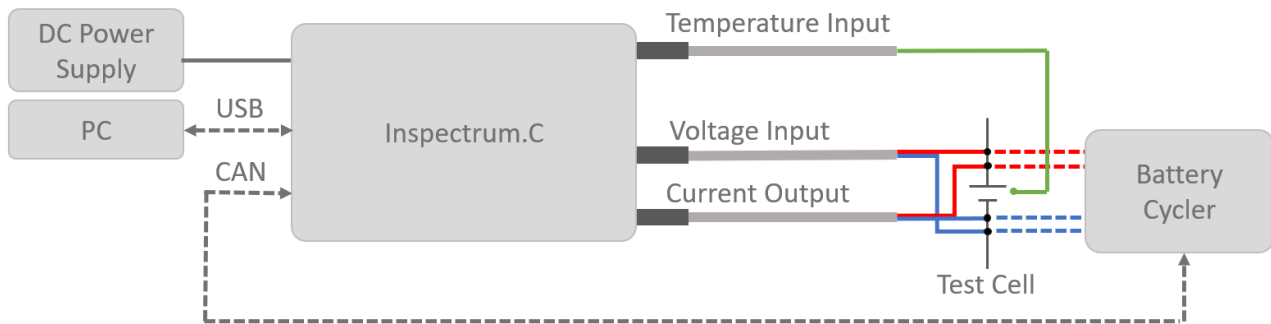
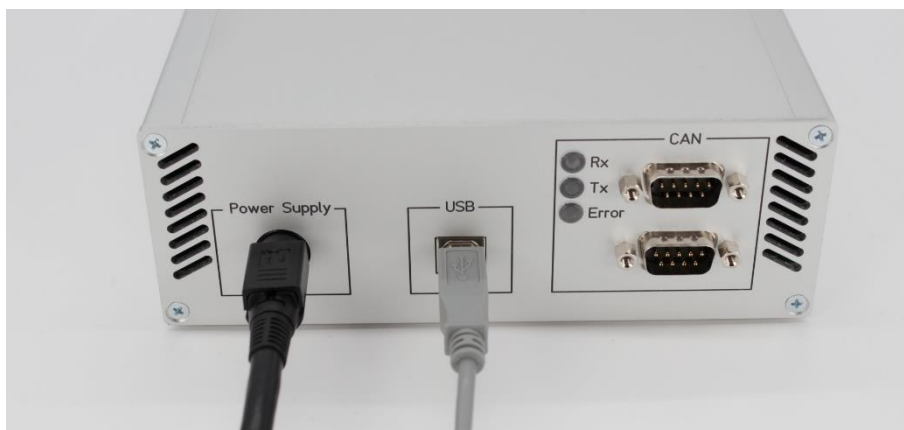

Figure 2: Diagram of the general connection setup with a battery cycler
Figure 3: Connection of the power supply and USB-Interface
Figure 2 shows all connections with the device. In order to take the Inspectrum.C into operation, the provided power supply (MeanWell GSM120A12-R7B) must be plugged into the DC power supply connector (1) as shown in Figure 3. If done correctly, the connector is locked into place and can only be removed by pulling back the black sleeve of the connector. The general setup and control of the Inspectrum.C is done via the USB interface. Thus, the included USB Cable needs to be plugged into the USB Interface (7) and connected to a host computer or laptop on the other end. After the device configuration is finished, the Inspectrum.C can also be controlled via a CAN interface so that, for example, a battery cyclers can be integrated to take over the control. Therefore, the Inspectrum.C needs to be connected to the CAN-BUS via the CAN-Interface (9). It doesn't matter, which one of the two CAN-Bus connectors is chosen, since both ports are connected in parallel internally. Nevertheless, the BUS-Termination needs to be provided externally by the user if necessary.
It must be ensured that a 4-point measurement is guaranteed so that no contact resistances of the connections are measured as illustrated in Figure 2. Figure 5 shows an example of a 4-point measurement on a pouch cell with Kelvin crocodile clamps. These allow for an easy setup of the experiments but are not recommended for long-term experiments.